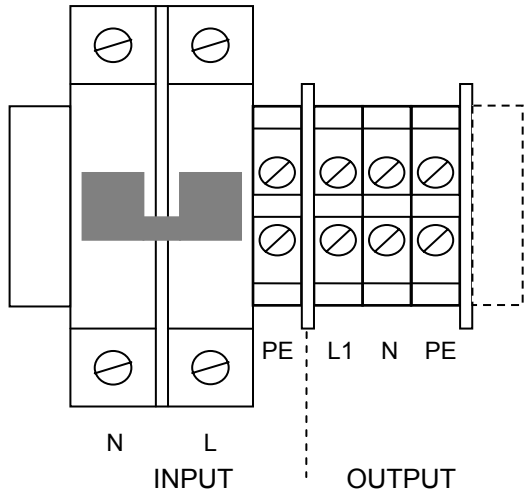

Figure 2
4. Connect the shore cable to the terminals that are indicated with “INPUT”. Connect the load to the terminals that are indicated with “OUTPUT”. Refer to figure 2. Connect the